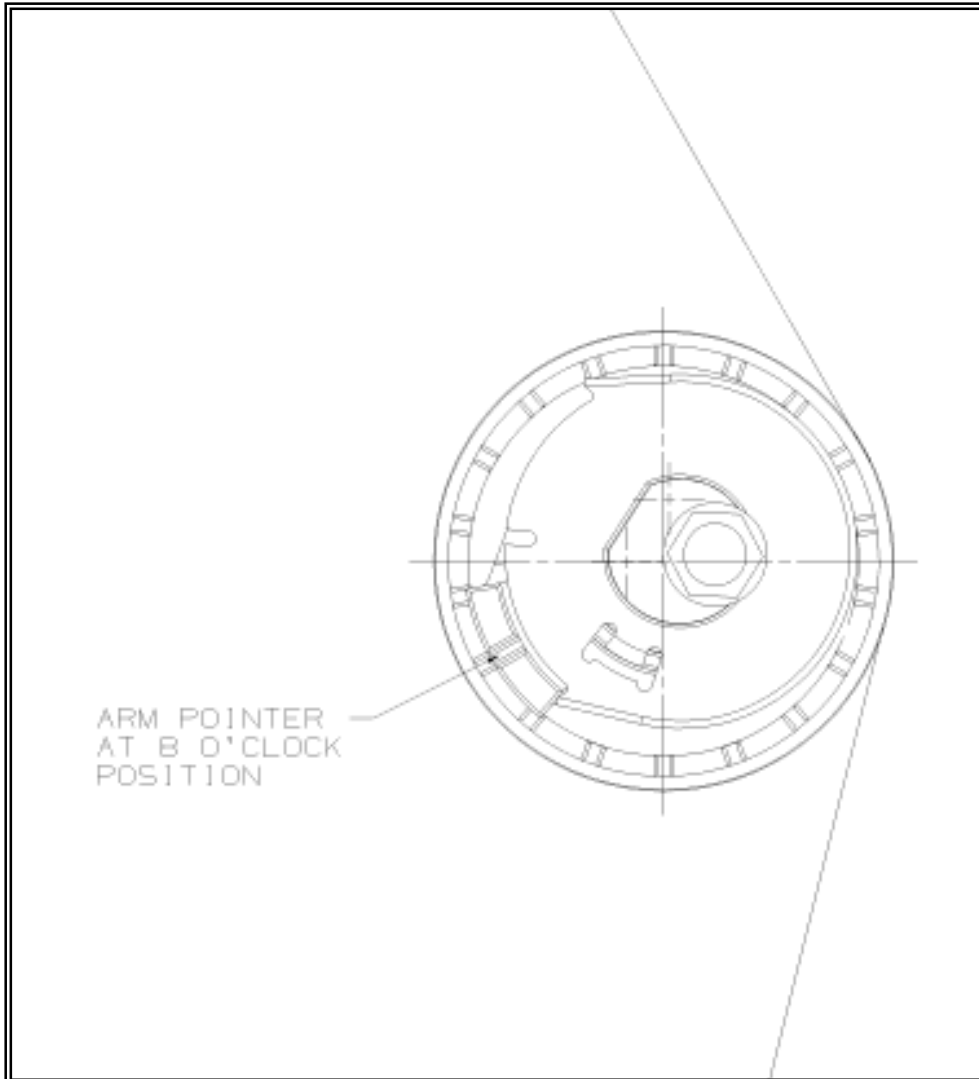

Figure 3: Initial position of Timing Belt Tensioner
9. Using the installation tool rotate the tensioner until the Arm Pointer is pointing at the 8 O'clock direction (see Fig. 3).